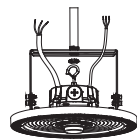

Figure 10
Step 3. Re-screw the nuts. (Figure 10), After installation, connect the wire of the fixture to the mains according to local wiring rules, ensure the connection is stable and make good protection on the connection. By adjusting the brackets screws, users can adjust 50° to the left or right vertically.